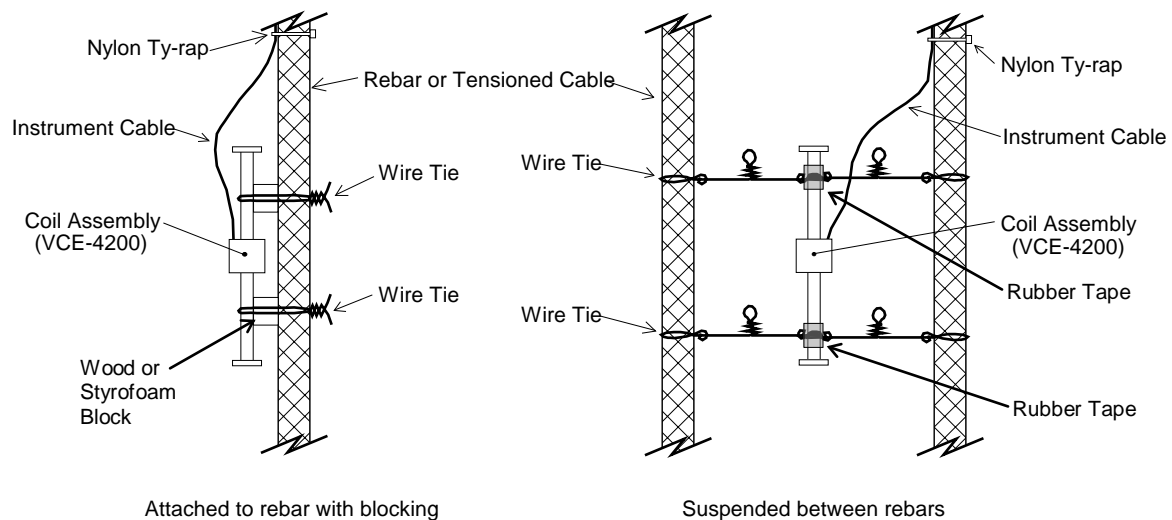

Figure 4 - Attaching VCE-4200 Strain Gages to Rebar
When casting the gage directly into the structure care must be taken to avoid applying any large forces to the end blocks during installation. This is most imperative when installing the VCE-4202. The models 4200 and 4210 can be wired into position by wiring directly to the tube (see Figure 4). The wires should not be tied too tightly since rebar and/or tension cables tend to move during concrete placement and vibration. Care should be taken not to damage the cable with the vibrator. The gage can also be placed directly into the mix if it can be assured that the orientation will be correct after the gage placement.
1. **Wrap a layer of self-vulcanizing rubber tape around the gage in the two places shown in Figure 4 (around the tie points). The rubber layer serves as a shock absorber, dampening any vibrations of the suspension system. Sometimes, without the rubber layers, as the tie wires are tightened the resonant frequency of the tie wires interferes with the resonant frequency of the gage. This results in unstable readings or no readings at all. This effect disappears once the concrete has been placed.**